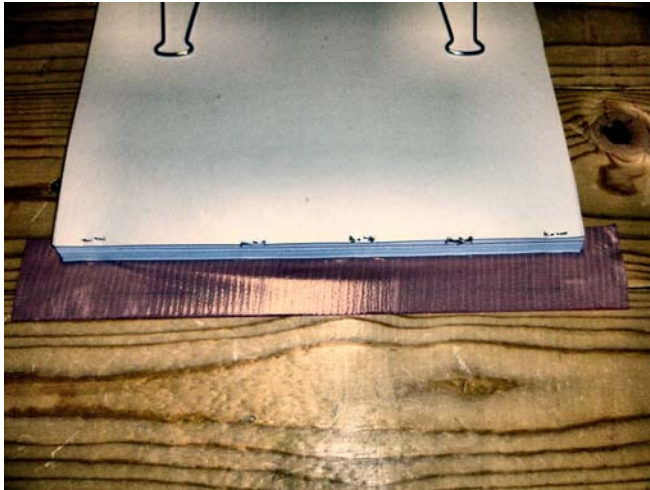

Fig. 14 - Wrap the tape tightly against the spine.
Step 3: Attaching the spine tape. The cloth tape, as previously mentioned, serves to help secure the binding, seal the staples, and cosmetically makes a smooth colored spine. Cut a 12" length from your inventory (see figure 12) and apply to the front as shown in figure 13. The six 2" rolls are not exactly 2" each as the 12" ruler showing above the top roll shows. Cover the front about 1/2" holding the tape firmly and taught. Press the tape to the plastic front cover sheet to secure it very well. Turn the book over as shown in figure 14.